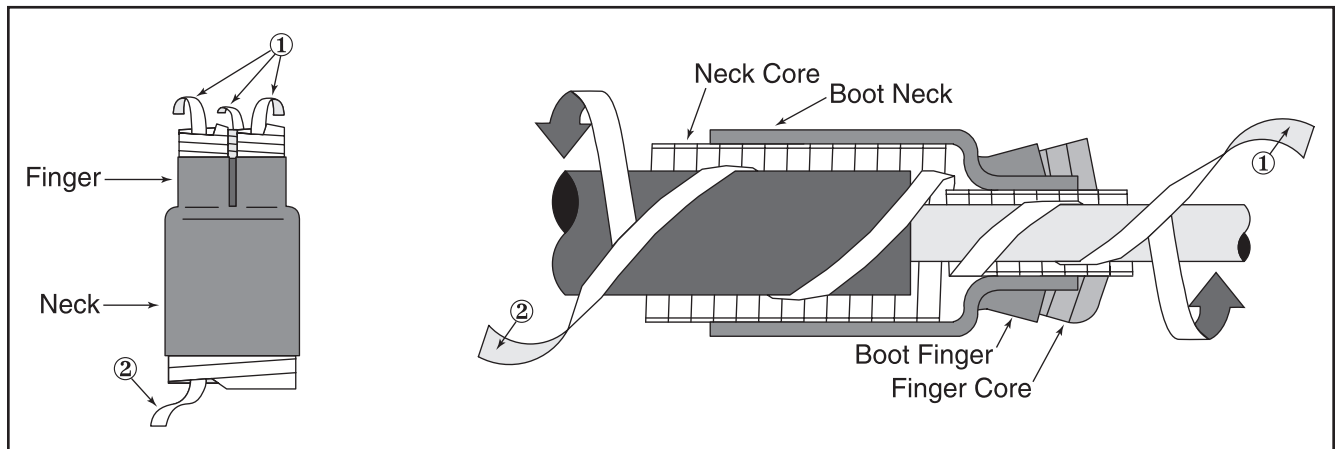

Figure 4
- 3.1 Inspect boot assembly and confirm that all loose plastic core ends are free as shown (① and ② *Figure 4*).